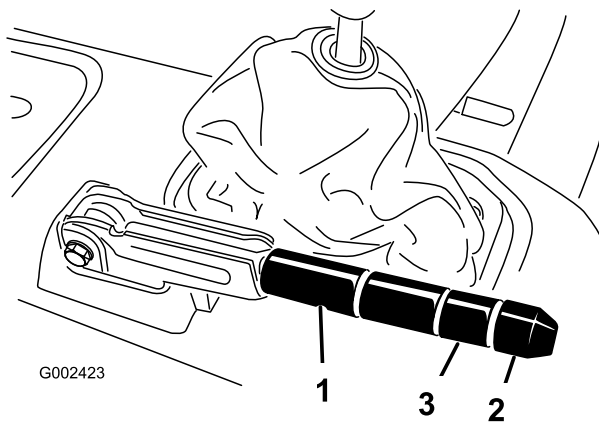

Figure 74
2. Loosen set screw securing knob to parking brake lever (Figure 74).